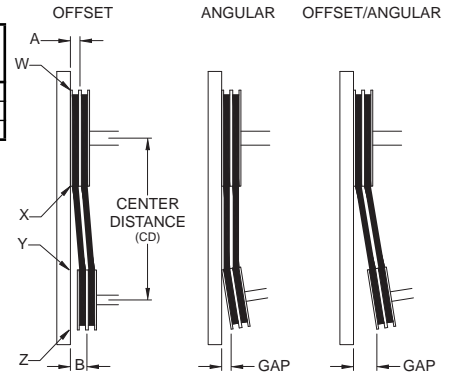
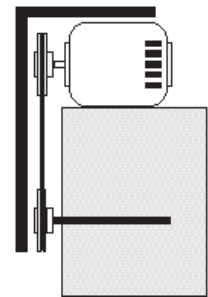

Figure 4
Figure 5
- Ensure pulleys are properly aligned. Refer to Figure 4
Figure 4 indicates where to measure the allowable gap for the drive alignment tolerance. All contact points (indicated by WXYZ) are to have a gap less than the tolerance shown in the table. When the pulleys are not the same width, the allowable gap must be adjusted by half of the difference in width (As shown in A & B of Figure 4). Figure 5 illustrates using a carpenter's square to adjust the position of the motor pulley until the belt is parallel to the longer leg of the square.